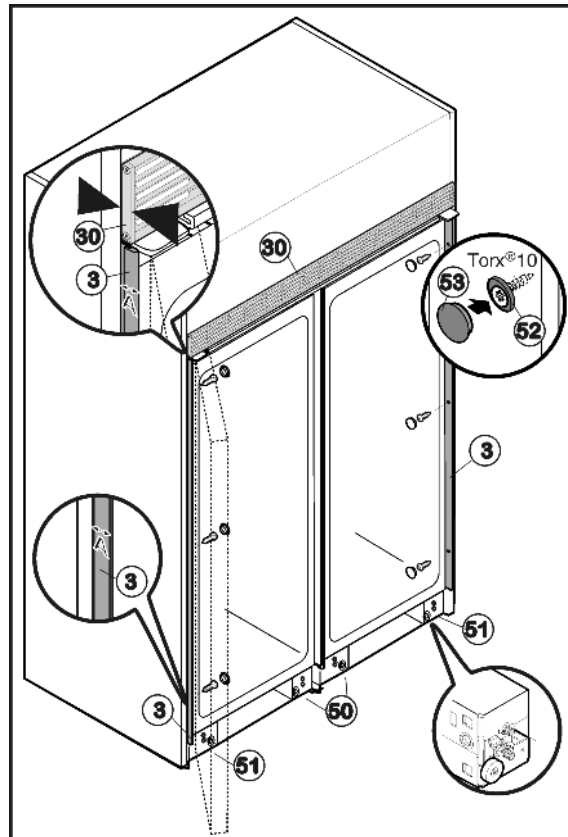

Fig. 52
- ▶ Push the appliance into the recess until the rear edge of the ventilation grille Fig. 52 (30) is flush with the front edge of the side wall of the cabinet.
- ▶ Completely screw in the two centre roller bases Fig. 52 (50) at the front and rear such that the appliance is only resting on the outer roller bases. This enables the two appliances connected to each other to be aligned jointly like a single appliance.
- ▶ Align appliance inside the recess by adjusting the outer roller bases Fig. 52 (51) and using a spirit level.
- ▶ At the top and bottom of the recess check the gap **A** between the front edge of the installation strip Fig. 52 (3) and the front edge of the side wall of the unit. It must be 1/2 " (13 mm). Realign the appliance in the recess if required.
- ▶ Secure appliance inside the recess using three screws Fig. 52 (52) hinge side of each appliance. Do not scratch the side installation strip Fig. 52 (3) when doing so.
- ▶ Place cover caps Fig. 52 (53) over the screws.
- ▶ Being careful not to affect the level, lower the levelling wheels in the center roller bases Fig. 52 (50) until they are resting on the floor.
- ▶ Fit lower ventilation grille Fig. 52 (54) flush with the floor such that the rubber lip is at the top. It is held in place via magnets.